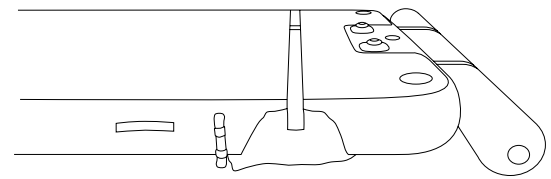

Fig 19 - Ballast Bag up
1. Place each Ballast Bag in the down position by removing the Ballast Bag strap from the Velcro strip on top of the Platform (Fig 19).